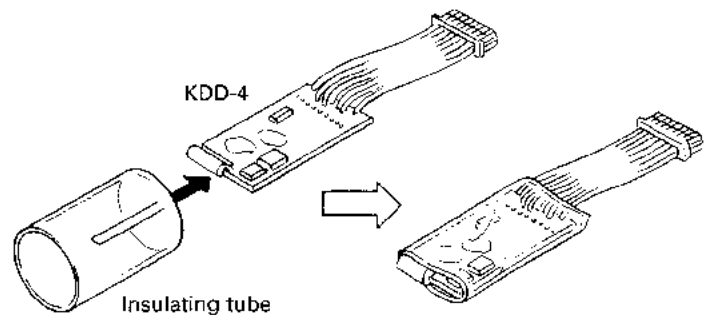

Fig. 5
1. Put an insulating tube around the KDD-4 board and heat it so that the tube encases the board. (Fig. 5)